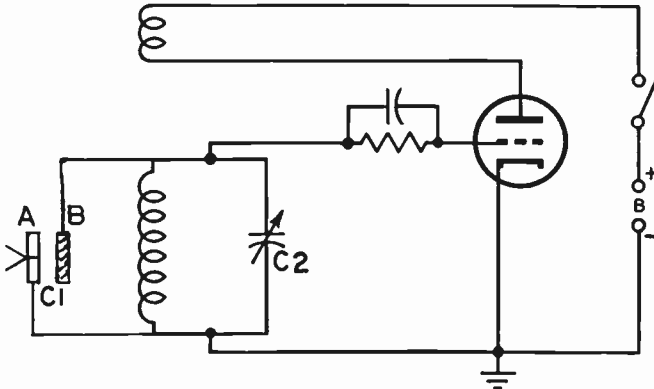

FIG. 16-4. AN ELEMENTARY METHOD OF PRODUCING FM.
**FM TRANSMISSION.** There are a number of methods by which FM may be produced. One of the simplest is shown in Fig. 16-4.
The method used in Fig. 16-4 is a crude, elementary one. However, its action will help us understand how FM is produced.